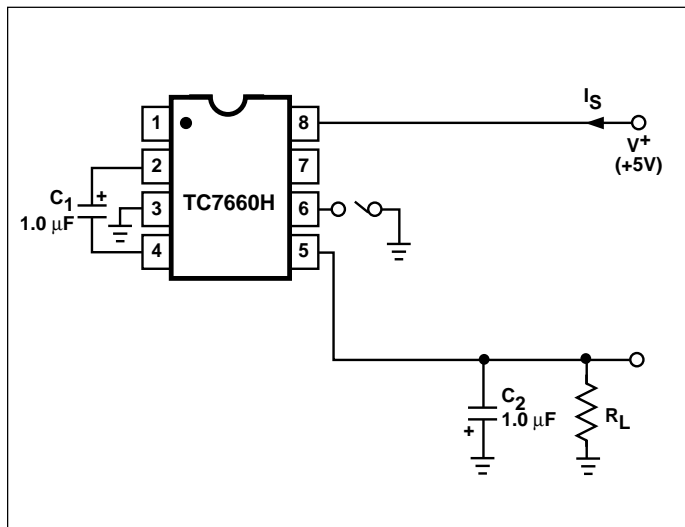

Figure 1. TC7660H Test Circuit
**ELECTRICAL CHARACTERISTICS:** Over Operating Temperature Range with V+ = 5V, C1 = C2 = 1μF, COSC = 0, Test Circuit (Figure 1), unless otherwise indicated.
V1 and V2 are the voltages on C1 during the pump and transfer cycles. If the impedances of C1 and C2 are relatively high at the pump frequency (refer to Figure 1), compared to the value of RL, there will be a substantial difference in voltages V1 and V2. Therefore, it is not only desirable to make C2 as large as possible to eliminate output voltage ripple, but also to employ a correspondingly large value for C1 in order to achieve maximum efficiency of operation.
### TYPICAL PERFORMANCE CHARACTERISTICS (Circuit of Figure 1)